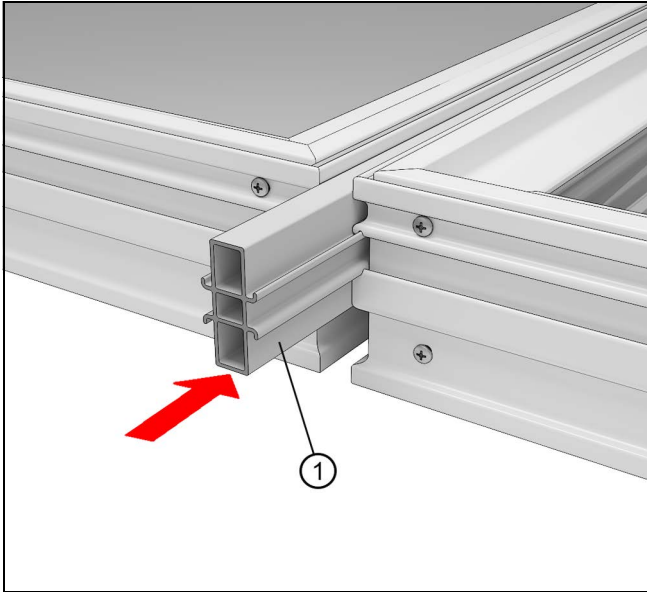

Figure 4
1. Set the units to be mullied close together and slide the mull pin down the nailing fin channel on both units. If necessary pound the pin in with a rubber mallet or plastic hammer. See Figure 4.